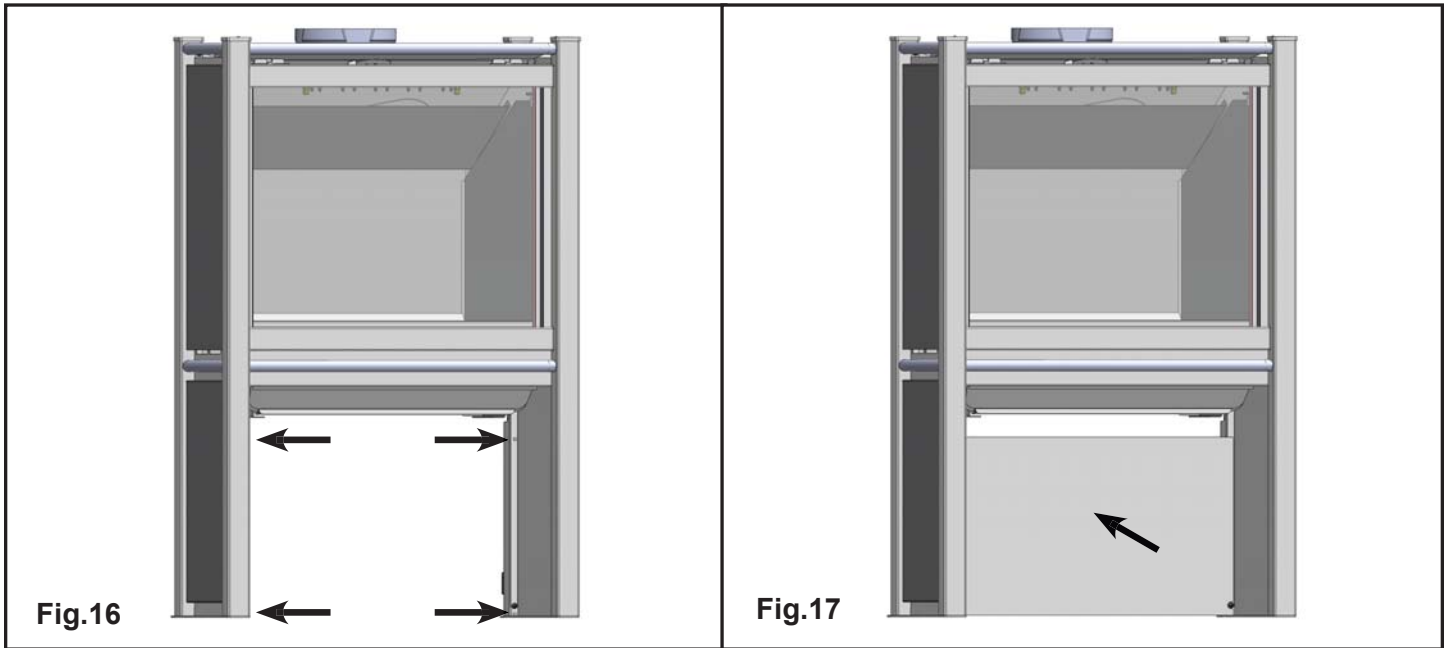

Fig.15
11. If installing the optional log set (Fig.15) refer to installation instructions on Page 35, if not continue below.